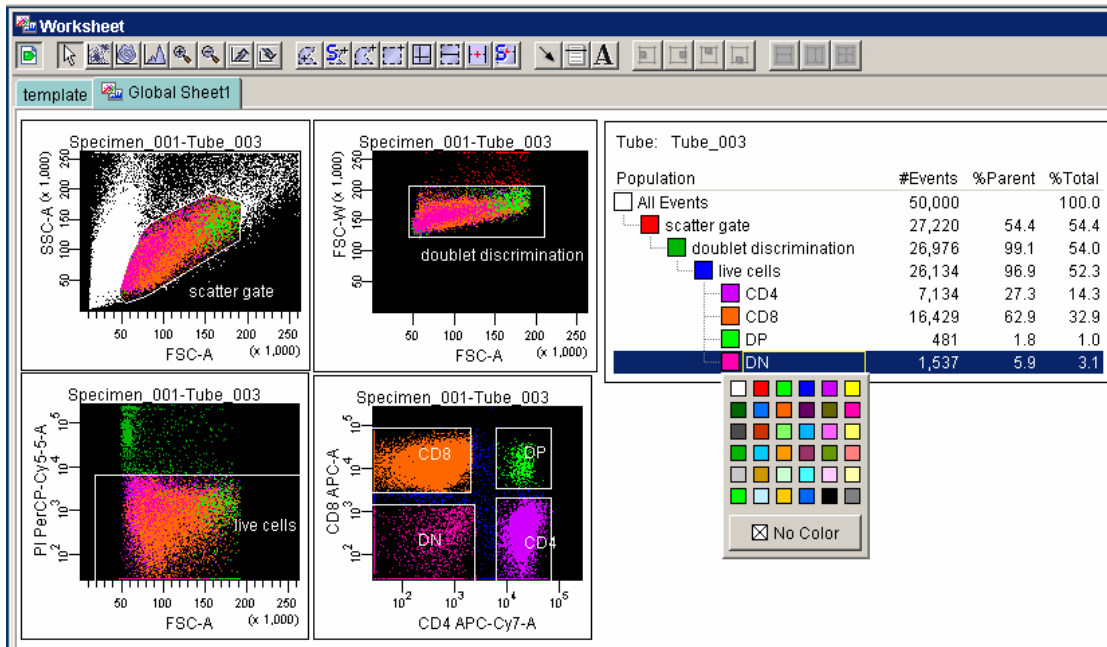

Figure 8
- An example of one gating strategy is shown in **Figure 8**.